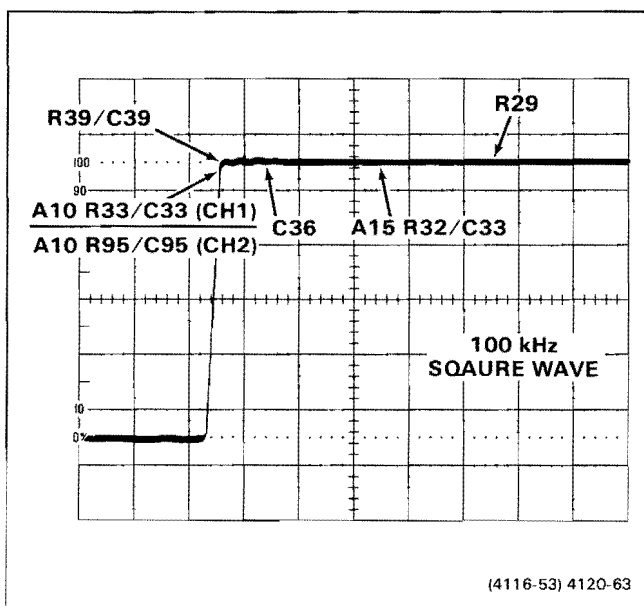

Figure 5-1. Areas affected by high-frequency compensation adjustments.
d. CHECK—Flat-top display aberrations are within 3% (0.15 division or less). See Figure 5-1 for a typical display.
e. ADJUST—HF Comp (R29, R32, and C33 on A15 board) for the best flat-top display (see Figure 5-1).
g. ADJUST—HF Comp (C36 on A15 board) for the best flat-top display (see Figure 5-1).
i. ADJUST—CH 2 HF Comp (R95 and C95) and HF Comp (R39 and C39) for best front corner (see Figure 5-1).
k. ADJUST—CH 1 HF Comp (R33, C33, and C58) for best front corner (see Figure 5-1).